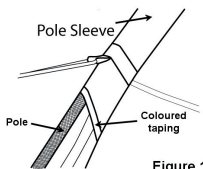

Figure 1
3. Taking the assembled poles in turn, gently PUSH them through the pole sleeves in the flysheet with the same colour taping as the mid section of the pole. Where possible avoid standing on the flysheet, as this will damage it (see figure 1). Do not continue until all the poles have been pushed through the sleeves in the flysheet.